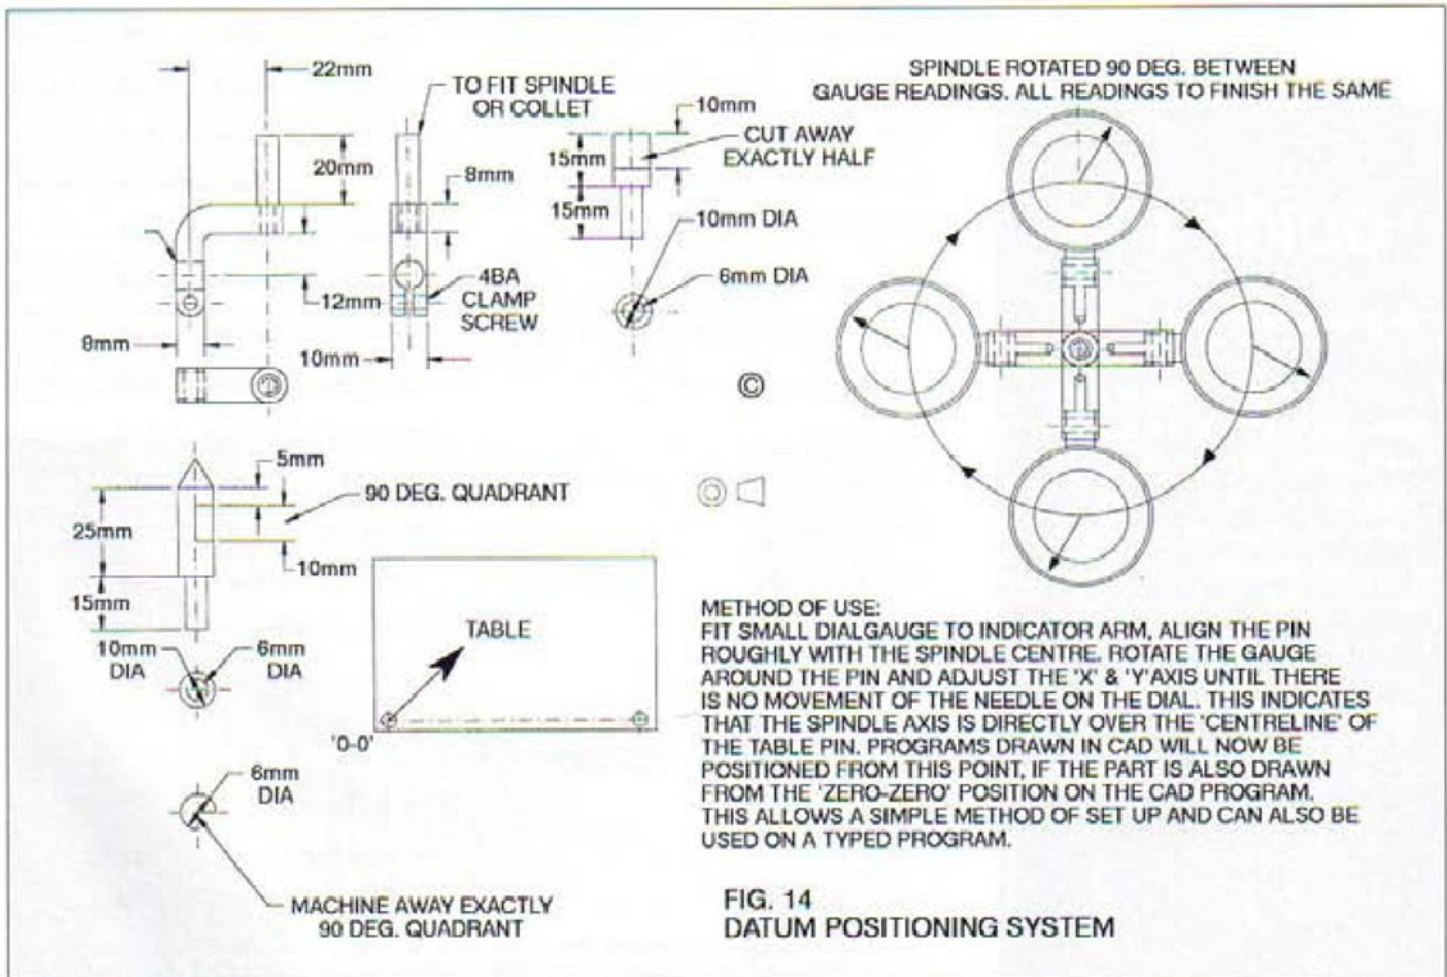

FIG. 14
As mentioned in the introductory article in Issue 52, it is often necessary to relate the '0,0' datum position of a component to a similar position on the machine table. **Figure 14** shows a couple of useful accessories which assist in achieving this. They are shown in operation in **Photo. 51**.
51. The table being set to the zero datum using the components detailed in Figure 14.